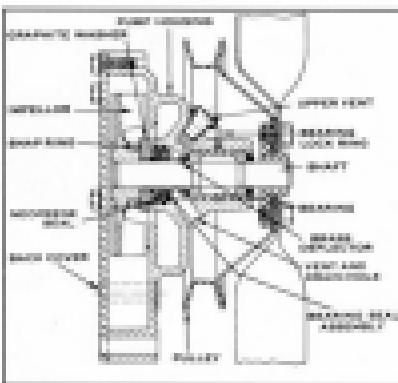

Fig. 210. Water Pump Assembly.
3. Remove bearing lock ring from outside of pump housing at bearing. (See Fig. 210.)
1. Install bearing and assembly into rear of pump housing with the four pins in their relative positions, as shown in Fig. 210. Install graphite washer either side toward impeller.
- (b) Carefully insert brass slinger onto end of shaft with the fingers. Flared end of slinger should be toward ball bearing. (See Fig. 210)